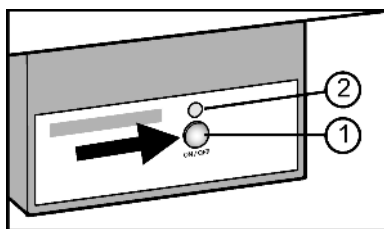

Fig. 23
- ▶ Press the On/Off button Fig. 23 (1) so that the LED Fig. 23 (2) shines.